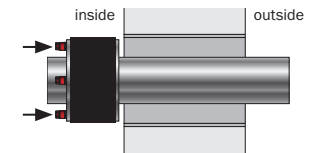
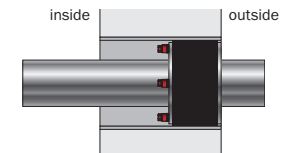

Fig. 3
Fig. 4
2. Push the **KRASO® Sealing Insert** over the pipe or cable to be fed through (Fig. 3) and place it flush with the waterside in the core drilling or the casing (Fig. 4).